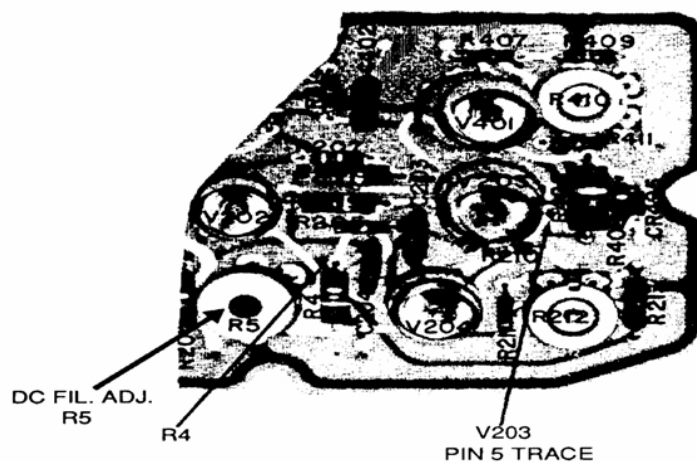

Figure 3. High voltage board (A100) - partial view.
(2) Connect multimeter negative to top of R4 (fig. 3) and multimeter positive to V203 PIN 5 TRACE (fig. 3). If multimeter does not indicate between -6.05 and -6.25 V dc, perform **b** (2) below.
(3) Connect multimeter negative to chassis ground and multimeter positive to positive side of C53 (fig. 3). If multimeter does not indicate between +19 and +21 V dc, perform **b** (3) below.
(2) Adjust DC FIL. ADJ. R5 (fig. 3) for a -6.15 V dc indication on multimeter (R).